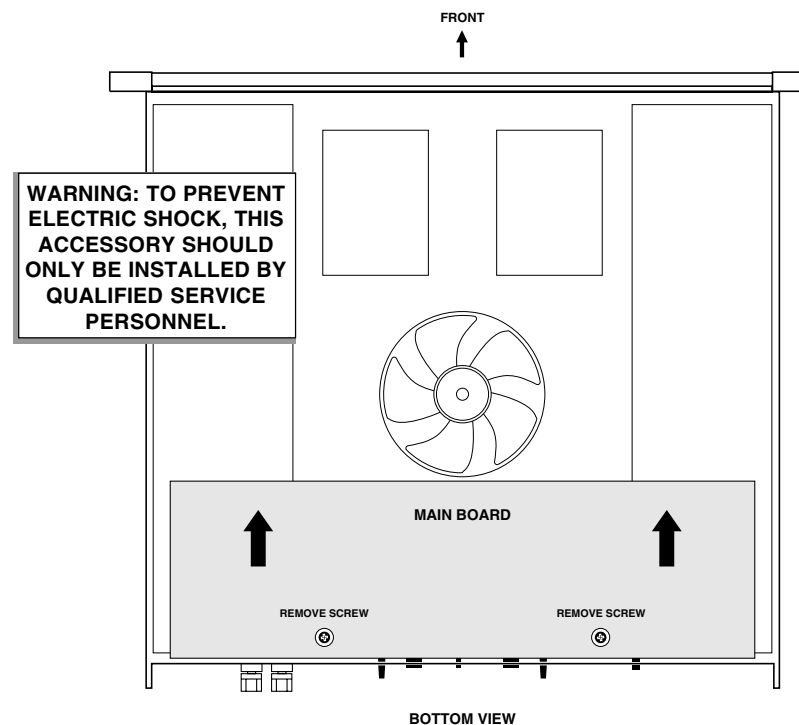

Fig. 2.1 Inside a Micro-Tech
4. Locate the main board (Figure 2.1) and remove the two Phillips screws which secure it to the chassis. Remove the nuts which secure the input phone jacks to the rear panel. Slide the main board toward the front until the